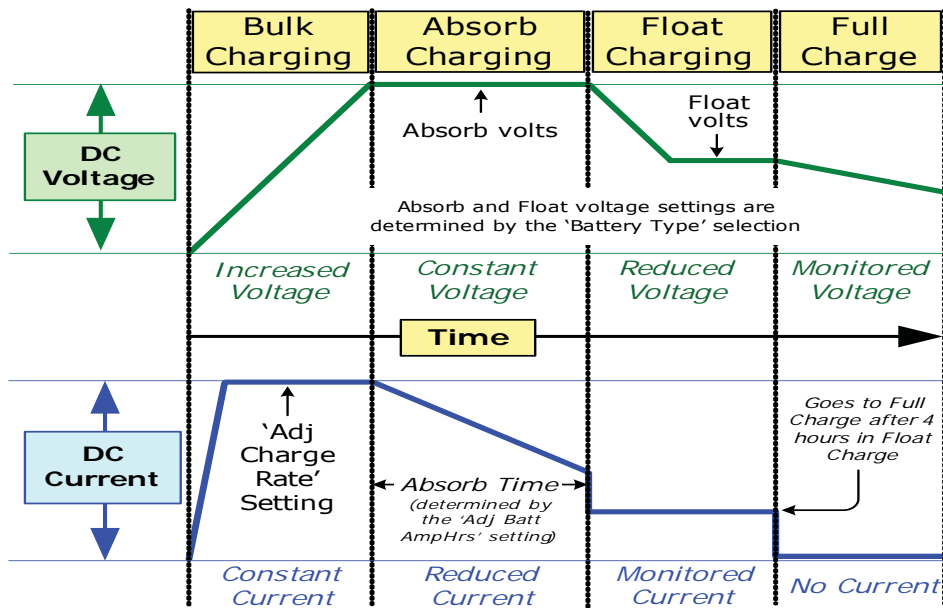

Figure 15, Automatic 4-Stage Charging Graph
The multi-stage charger can use up to five different charging stages to help monitor and keep the batteries healthy. The five stages include an automatic 4-stage charging process (Bulk, Absorb, Float, and Full Charge), and a manual Equalization (EQ) charge stage. The automatic 4-stage charge process provides complete recharging and monitoring of the batteries without damage due to overcharging (see Figure 15). The Equalization stage (requires the ME-RC50 remote) is used to stir up stratified electrolyte and reverse any battery plate sulfation that might have occurred.
When the BTS is installed, if the temperature around the BTS is below 77°F (25°C) the absorb and float charge voltage increases. If the temperature around the BTS is higher than 77°F (25°C), the absorb and float charge voltage decreases. See Figure 15 to determine how much the charge voltage changes (increases or decreases) as the temperature reading of the BTS changes. For example, the nominal absorb charge voltage for a flooded battery at 77°F (25°C) is 14.6 VDC. If the battery temperature is 95°F (35°C), the absorb charge voltage would decrease to 14.3 VDC (14.6 VDC - 0.3 change).